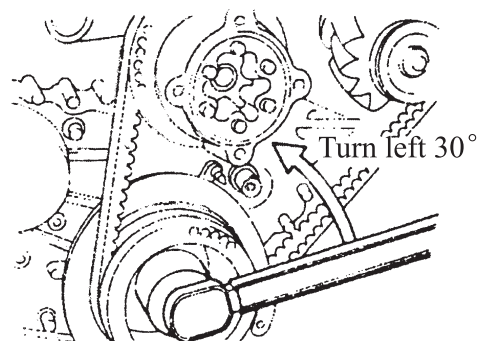

Fig. 1-15
(2) Place the first cylinder at the dead point position of compression strike and turn the crankshaft about 30 ° from this position. See Fig. 1-15.